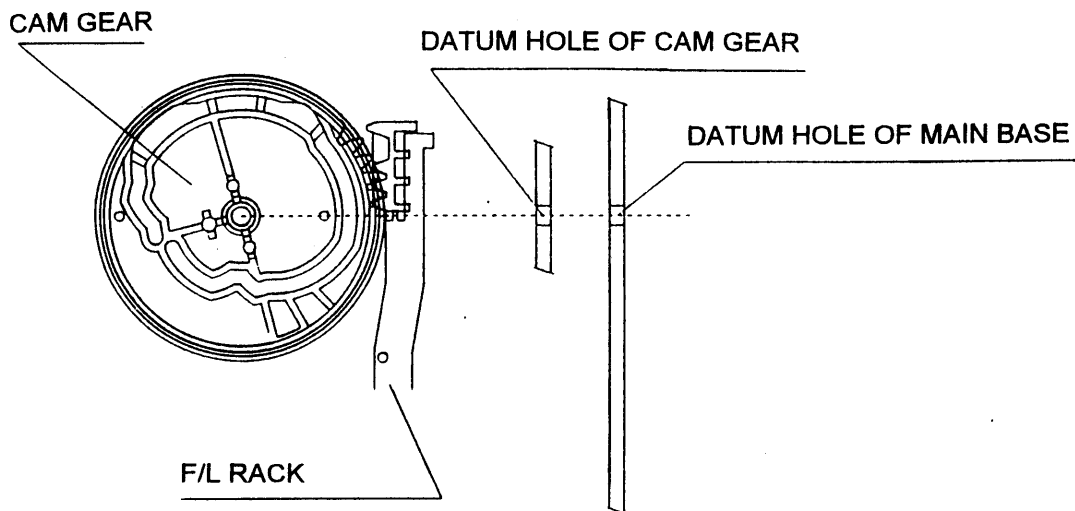

Fig. 4-1 DATUM POSITION OF F/L RACK & CAM GEAR
4-1. MECHANICAL ADJUSTMENT (See Fig. 4-1~4-5)
- a). Make sure that the DATUM HOLE of the CAM GEAR is aligned with the DATUM HOLD in the MAINBASE in the EJECT mode as shown in Fig. 4-1.